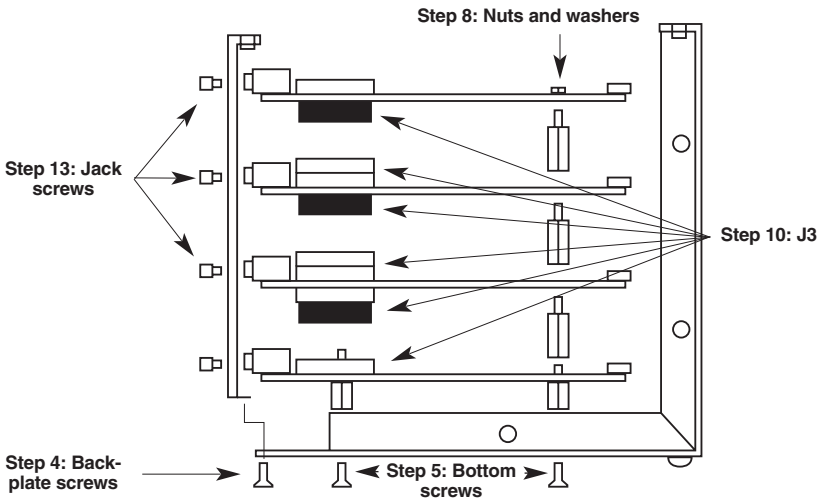
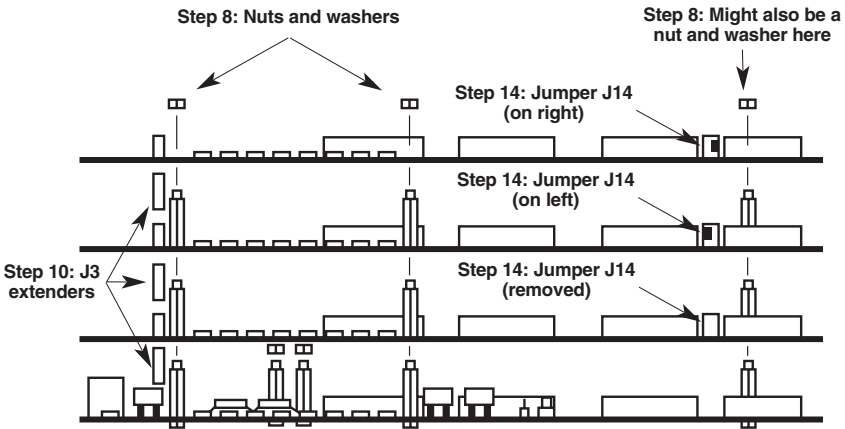
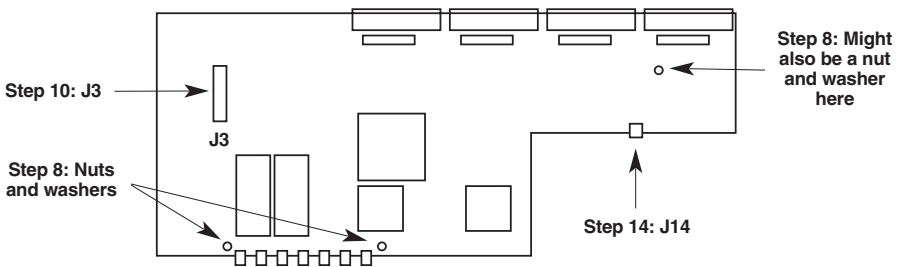

Figure F-2. Exploded left-side view of a ServSwitch or ServSwitch Ultra with the maximum number of ports installed.
Figure F-4. Exploded front view of a ServSwitch's or ServSwitch Ultra's PCB stack (16-port unit shown).
Figure F-5. Top view of the 4-Port Expansion Board (and previously installed PCBs).
4. Unscrew and remove the three countersunk screws on the bottom panel that fasten the back panel to the bottom panel. See Figure F-2 on the next page.
8. Unscrew and remove the nuts and washers from the screw-ends of the standoffs that poke through the topmost PCB. There will definitely be two of these standoffs at the front of the PCB; there might also be one on the narrow right-hand end. See Figure F-2 on the previous page, Figure F-4 on the next page, and Figure F-5 on page 115.
10. You should have received two or three new standoffs with your Expansion Board. Screw these into the screw-ends of the existing standoffs that you exposed in step 8. You should also have received an extender (spacer) for the J3 connector on the PCB that will be below the Expansion Board (see Figure F-2 on the previous page, Figure F-4 on the next page, and Figure F-5 on page 115); plug this extender into the J3 connector, being careful not to bend the extender's pins.
11. Plug the 4-Port Expansion Board into the J3 extender you just attached, being extremely careful not to bend the Board's pins (see Figure F-2 on the previous page and Figure F-5 on page 115). The new standoffs' screw-ends should poke through the appropriate holes on the Board, and the Board's DB25 connectors should fit in the CPU-port slots you exposed in step 7.
13. Fasten the Board to the back panel by screwing the jack screws you removed in step 9 back in. (See Figure F-2 on the previous page.)
14. Make sure that port-numbering jumper J14 (see Figure F-4 on the next page and Figure F-5 on page 115) is set correctly on all of your unit's "slave boards" (all the boards in the PCB stack except the bottommost main board). On the second board from the bottom, J14 should be *removed* to identify that board as the location of ports 5 through 8. On the third board from the bottom (if you've installed one), J14 should be set to the *left* to identify that board as the location of ports 9 through 12. On the fourth board (again, if you've installed one), J14 should be set to the *right* to identify that board as the location of ports 13 through 16. If these jumpers aren't set correctly, the Switch will either access the wrong ports, access multiple ports simultaneously, or light LED 3 ("slave-communication error") at power-up.